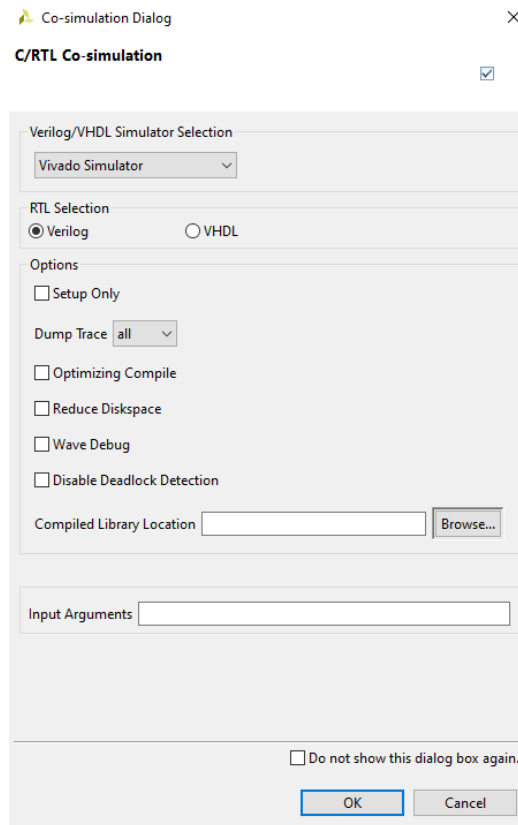

Figure 9: Configuration for C/RTL Co-simulation.
- Now we are ready to perform the behavior simulation of the generated RTL implementation. Please select **“Solution -> Run C/RTL Co-simulation”**. Set the simulator to **Vivado Simulator**, and make sure to set **“all”** for Dump Trace as shown in Figure 9.